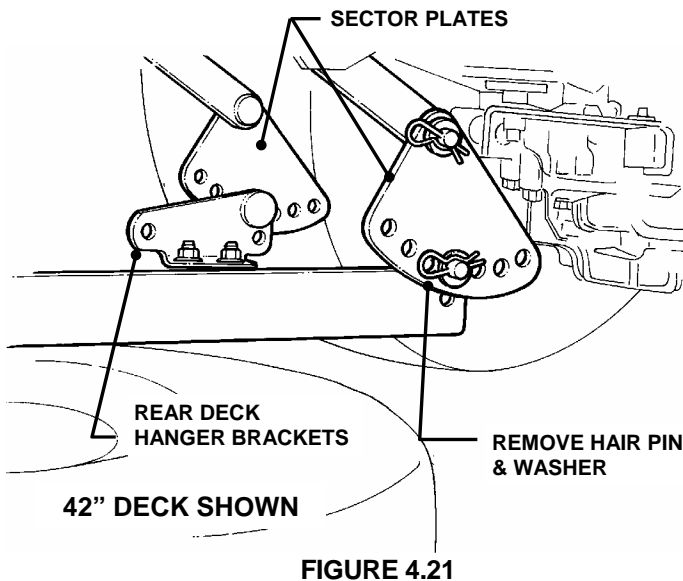

FIGURE 4.21
10. Slide sector plates off of rear deck hanger brackets. See Figure 4.21.